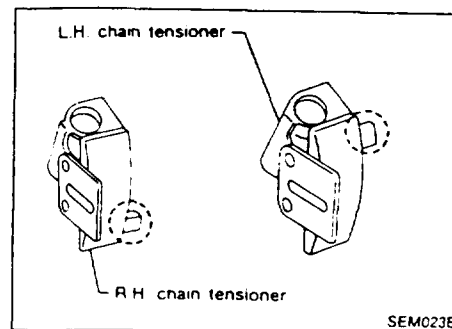

Figure 12
7. If the tensioners were removed, install them at this time (Figure 12)